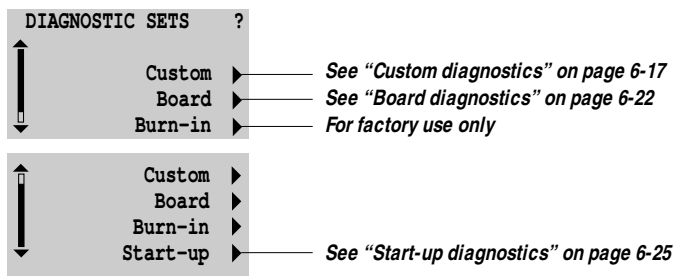

Figure 6-4 Fiery XJ-R/R2 diagnostic sets
4. *Release the up arrow button as soon as you see the Diagnostic Sets display window. See Figure 6-4.*